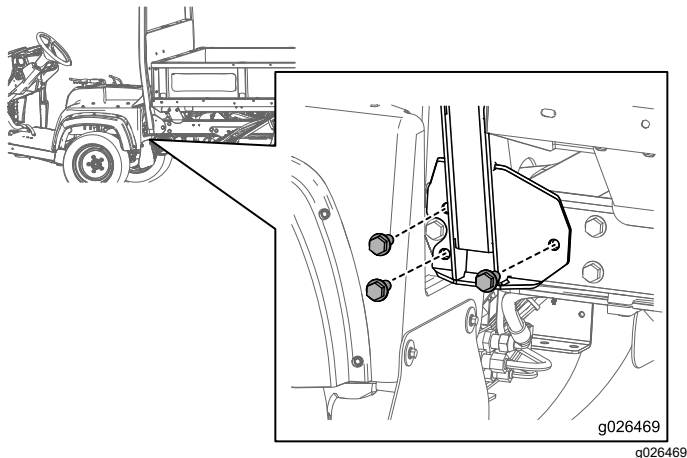
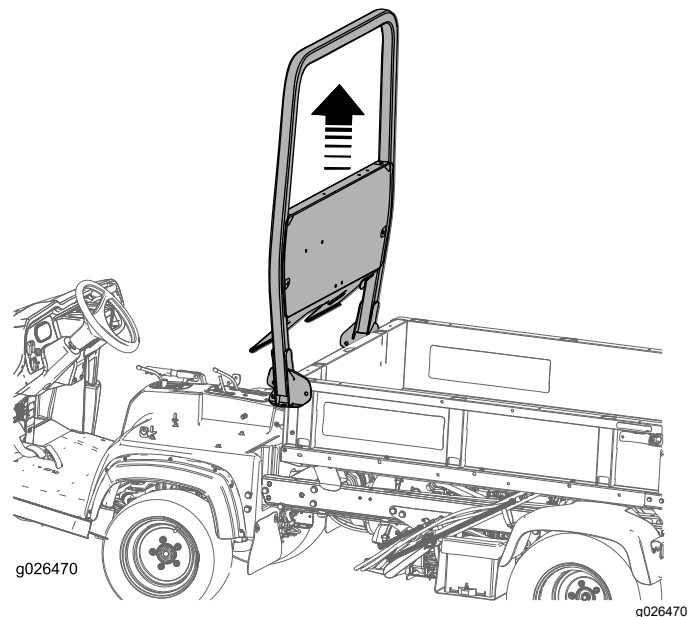

Figure 9
Figure 10
1. Remove the 6 bolts securing the ROPS assembly to the frame of the machine as shown in Figure 9 and Figure 10.